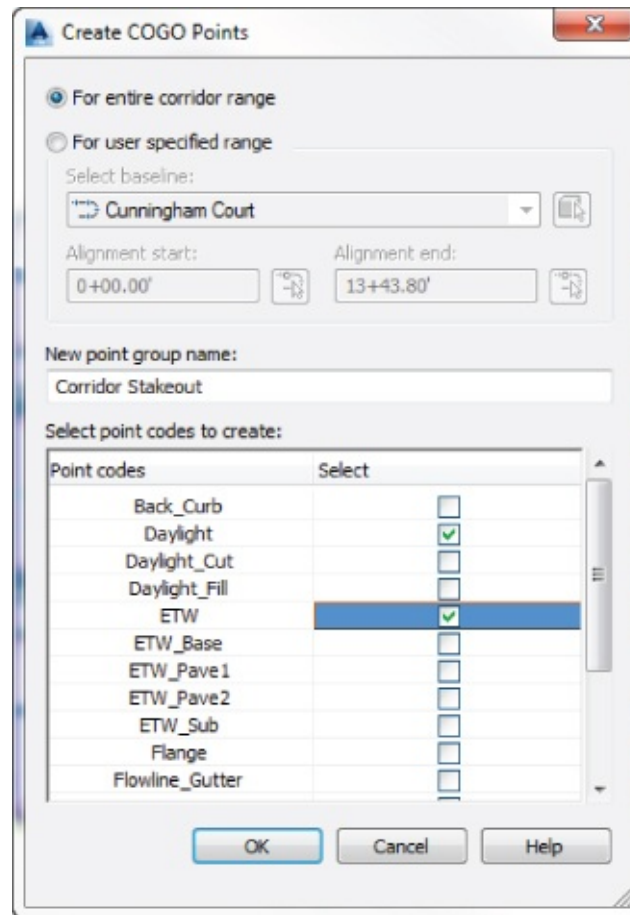

Figure 10.56 Creating points for stakeout along corridor feature lines
- c. In the Select column, clear all the check boxes except Daylight and ETW, as shown in Figure 10.56. (Hint: Press the Shift key as you click to unselect multiple items at once.)